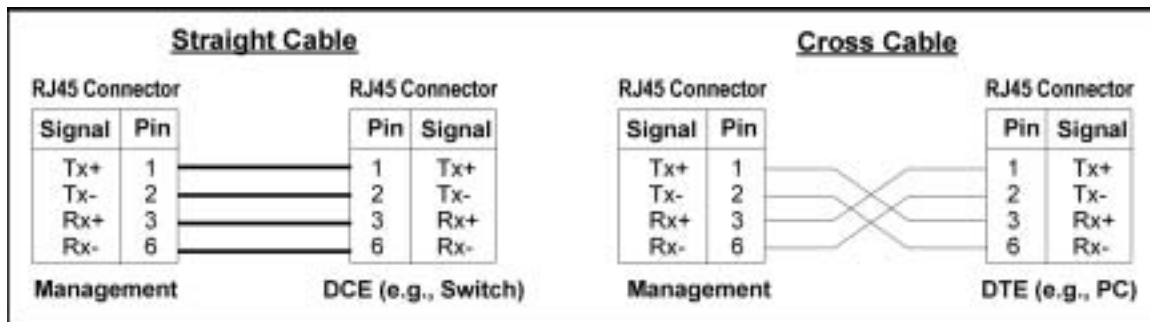

Figure 1: Straight and Cross Cable Wiring
- Category 5 *cross* cable (shown in *Figure 1*, page 7) not longer than 100 m or 328 ft if the TereScope is to be connected to the SNMP NMS directly. (The SNMP NMS, e.g., PC is a DTE.)
- Category 5 *straight* cable (shown in *Figure 1*, page 7) not longer than 100 m or 328 ft if the TereScope is to be connected to the SNMP NMS via a DCE (e.g., switch).